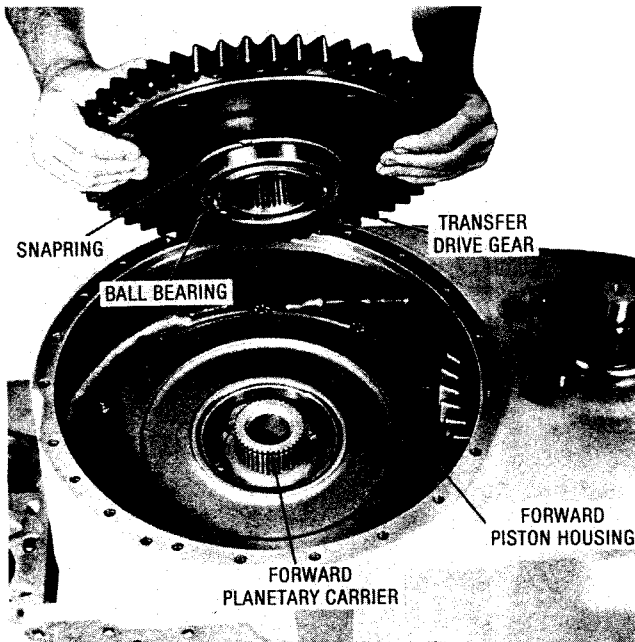

Fig. 7-22. Installing transfer drive gear assembly (TT, TTB)
(1) Install the transfer drive gear (as assembled in para 6-17), bearing first, onto the splined hub of the forward planetary carrier (fig. 7-22).